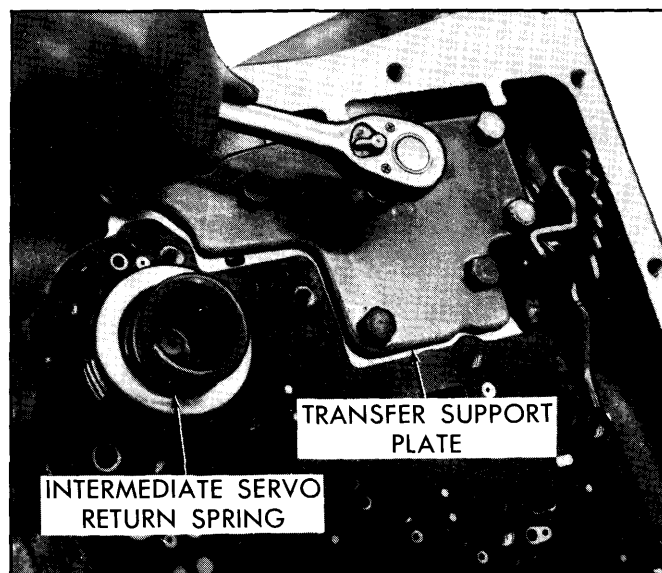

Fig. 7-20—Removing Transfer Support Plate and Intermediate Servo Return Spring
4. Remove intermediate servo return spring. (Fig. 7-20)
5. Remove transfer support plate bolts. Remove transfer support plate. (Fig. 7-20)